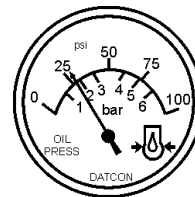

Figure 49. Oil Pressure Gauge
13. The engine oil pressure gauge (Figure 49) will indicate the oil pressure (kg/ cm²) of the engine. Under normal operating conditions the oil pressure should be approximately 25 psi.